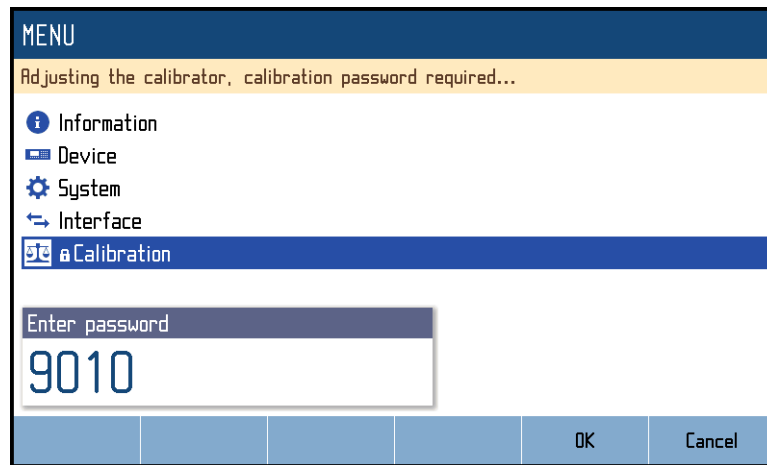

Figure 42 Password entry
- Values denoted in % or without any unit (mostly used in source functions with continuous ranges like V_{dc} function in fig. 42 above) show relative position within selected range. Such points can be adjusted by changing the value so that the standard readout gets as close to nominal value as possible.